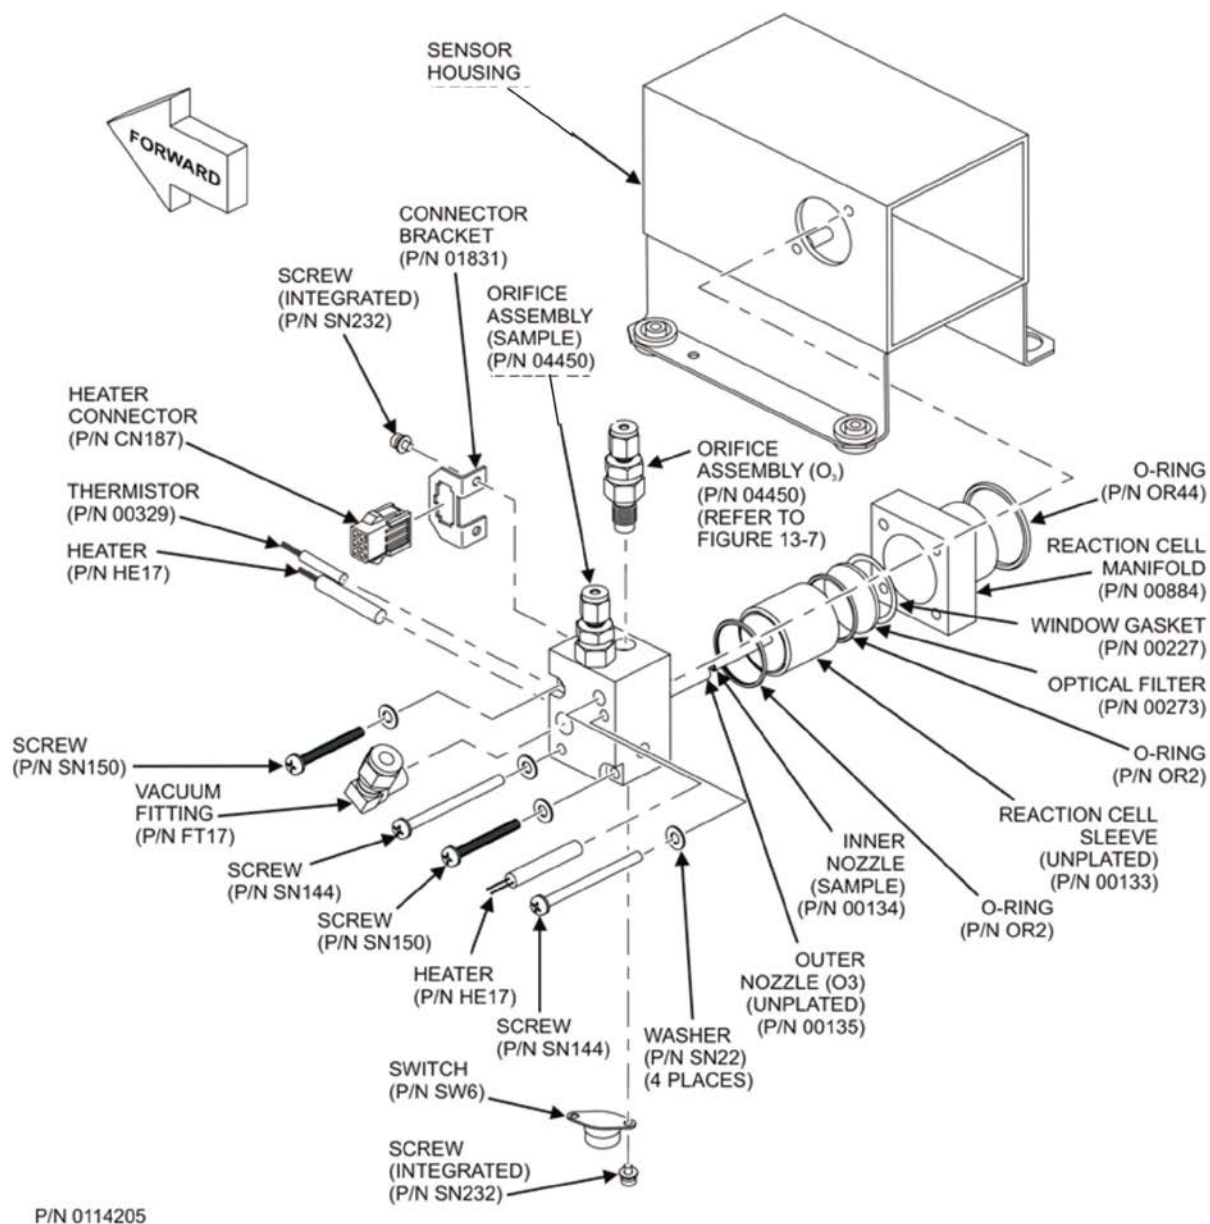

Figure 5-11. Reaction Cell Assembly
To clean the reaction cell, it is necessary to remove it from the sensor housing. Refer to Figure 5-11 for the following procedure.
2. Remove the analyzer cover and locate the reaction cell assembly (refer to Figure 2-3 and Figure 5-11).